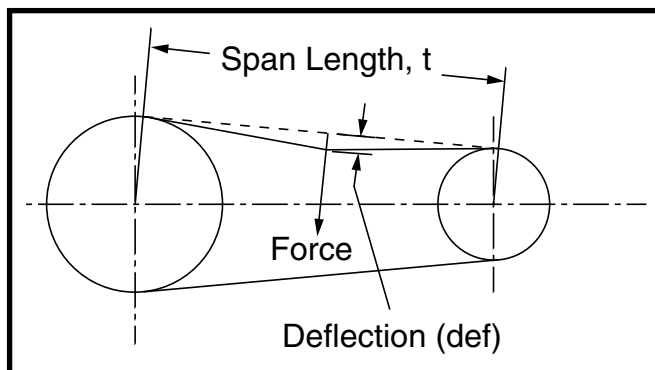

Figure 4. Tensioning V-Belts
- These air handlers can be purchased in both single and three phase power configurations, all single phase equipment is shipped from the factory ready for field connections. For electrical connection locations see Figures 4 or 5 (pages 10 or 11).